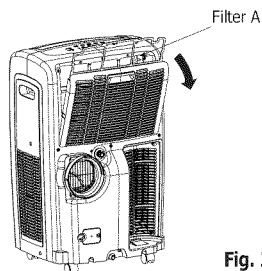

Fig. 27
- This unit has three filters, they are filter A, B and C. Grasp the upper panel tab and take off the filter A which is behind the grill of the back panel (Fig.27). Remove the lower filter B and C by loosening the screws. Take down the air inlet grille, then remove the air filter as shown in Fig.28 & 29.